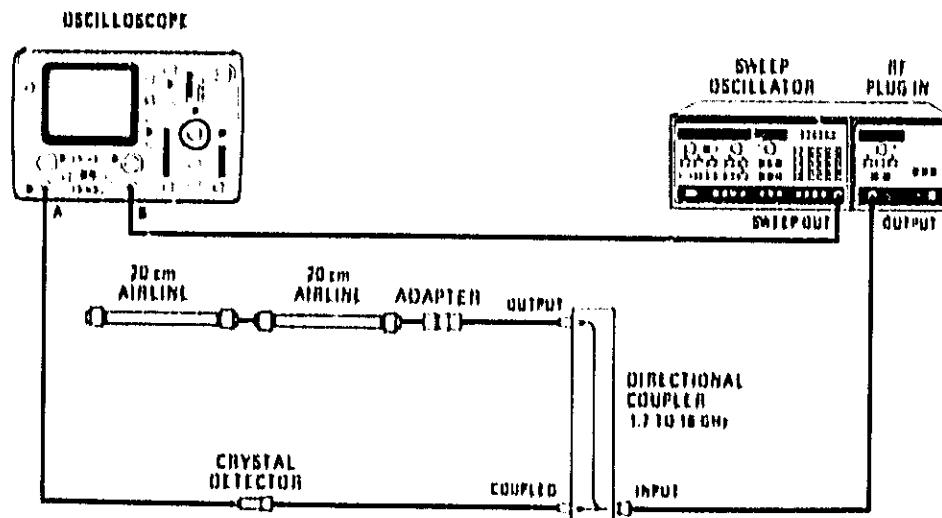

Figure 4-10. Output SWR Test Setup
1. Connect equipment as shown in Figure 4-10. Put oscilloscope in A vs. B mode, and adjust horizontal offset and Channel B sensitivity so the trace fills the screen.